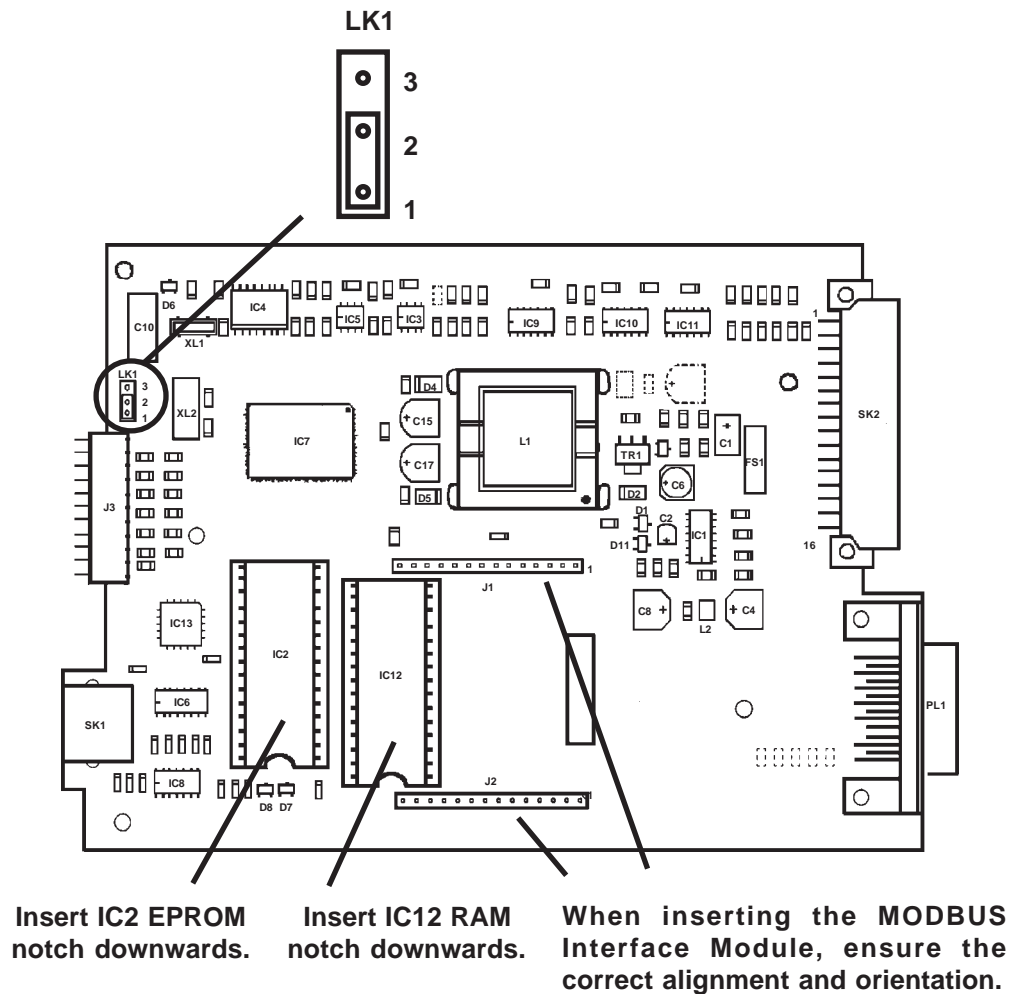

Figure 7 SYSTEM 57- Engineering Card Mark II
- b. Mark II hardware by the presence of two 28 pin DIL IC sockets and a rectangular cutout near the centre of the card pcb. (See Figure 7).
- (4) Insert the RAM expansion integrated circuit (HN6264ALP) into the socket IC12 on the Engineering Card, ensuring that pin 1 of the IC is aligned correctly with pin 1 of the socket and that all pins are properly inserted into the socket.
- (5) Using small pliers or an electrical screwdriver gently remove the Engineering Card shorting link LK1 and replace to short pins 1 and 2. See Figure 7.
- (6) **This step applies to the RS485/422 module only.** For correct operation, especially at high baud rates, RS485 and RS422 highways should be resistively terminated.